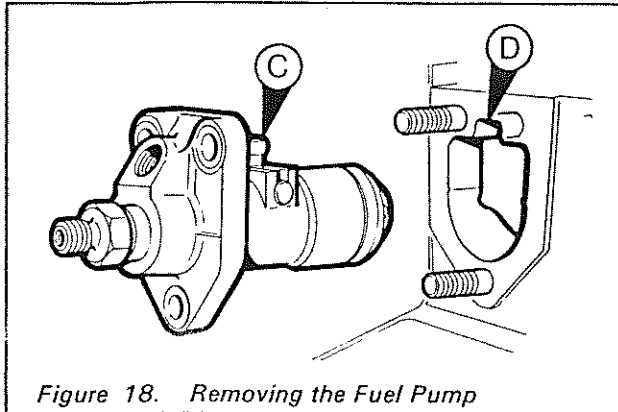

Figure 18. Removing the Fuel Pump
6. Refer to Figure 18 and align the fuel pump rack ball (C) with the cut-out (D) in the crankcase by positioning, and holding, the engine control lever approximately 10° before the vertical position.